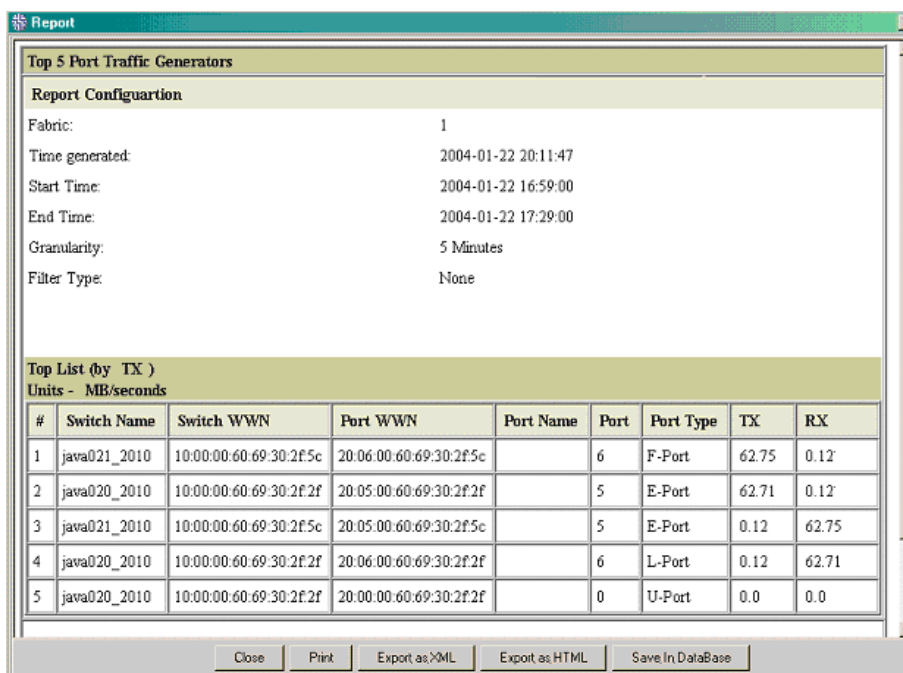

Figure 24: Performance Monitor Report Displayed in HTML Format
If you selected a display in HTML format (see step 5), the report is displayed as shown in Figure 24.
- “Creating Performance Monitor Report Templates” on page 135The report is displayed (see Figure 24 on page 131).